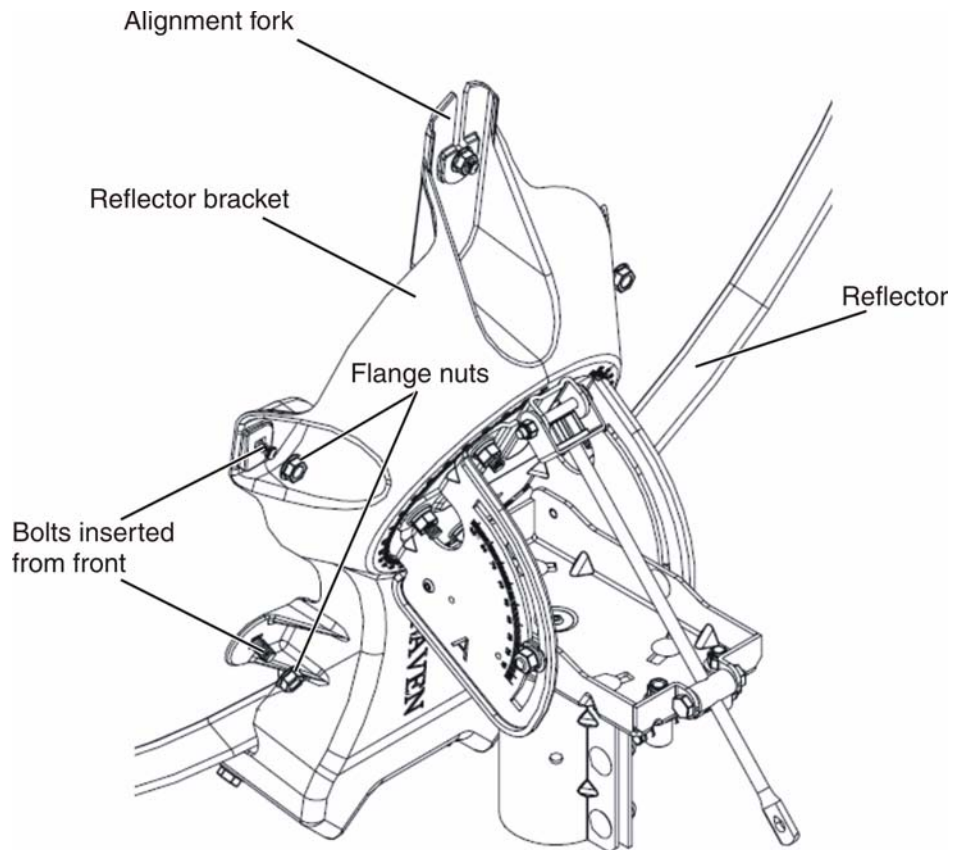

Figure 16: Attaching the antenna reflector (rear view)
| 5/16-inch hex nuts                                 | 4        | Reflector to Az/EI mount assembly                            | Figure 16 on page 23                      |
2. Hold the reflector against the reflector bracket and lower it onto the bracket, allowing the bolt to slide down into the alignment fork at the top of the antenna bracket, as shown in Figure 16.